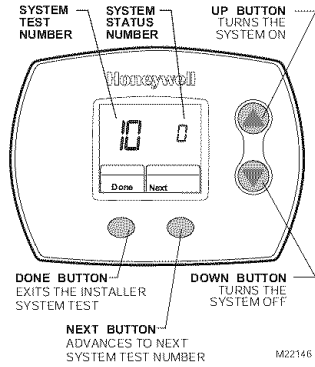

Fig. 20. Review thermostat buttons used during Installer System Test.
2. See Fig. 20 to review how the thermostat buttons are used during the Installer System Test. See Table 4 for available Installer System Tests.